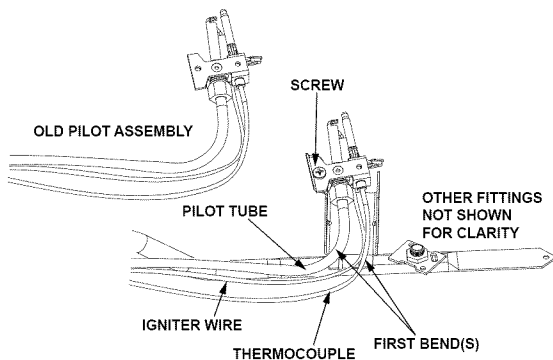

FIGURE 34.
4. Remove and keep the screw securing the pilot assembly to the pilot bracket. (Figure 34)
6. Using the old pilot tube as a guide, bend the new pilot tube to match the old one. **NOTE:** Make only the bends closest to the pilot before going to the next step. (Figure 34)